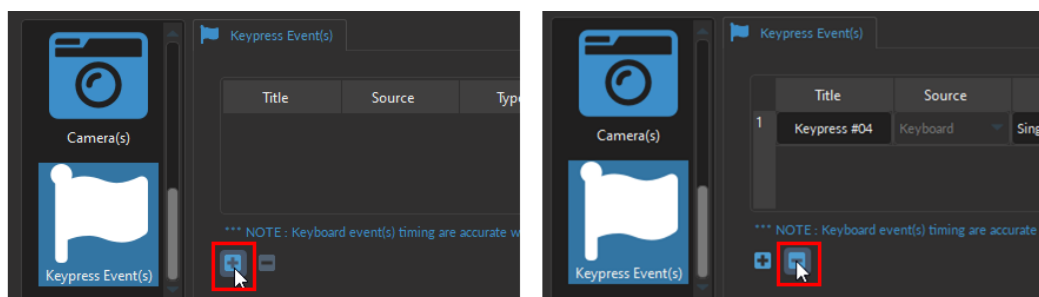

Figure 8.46: Adding and Removing Keypress Events
To add a new **KeyPress Event**, select the + sign at the bottom of the window (Fig. 8.46, left). To remove a Keypress, use - button (Fig. 8.46, right).
- **NOTE:** Selecting the + button (without clicking the *Add* button or the *Close* of the *Channel Configuration* window) will **automatically** add the Keypress Event channel at the **bottom** of the Acquisition View window, below any pre-existing channels (Fig.8.46).